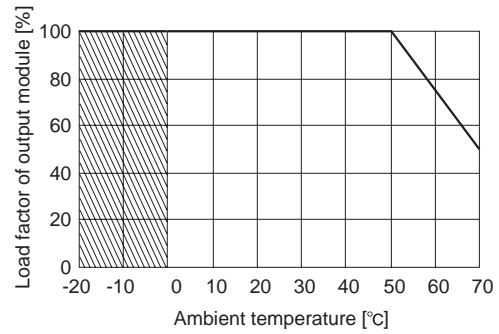

Fig.4.6 Derating curve of output module on ambient temperature
■Derating curve of output module depending on ambient temperature(at suction side) shown in Fig.4.6.
Consequently, the maximum value in A11-A51 is 100%, while according to derating curve(Fig.4.6), the output modules are possible to operate at ambient temperature 50°C in load factor 100%. As a result AC4-LWHEC-00 is OK to use for this condition.
Consequently, the maximum value in A11-A51 is 96%, while according to derating curve(Fig.4.6), the output modules are possible to operate at ambient temperature 50°C in load factor 100%. As a result AC9-2HCSWP-00 is OK to use for this condition.